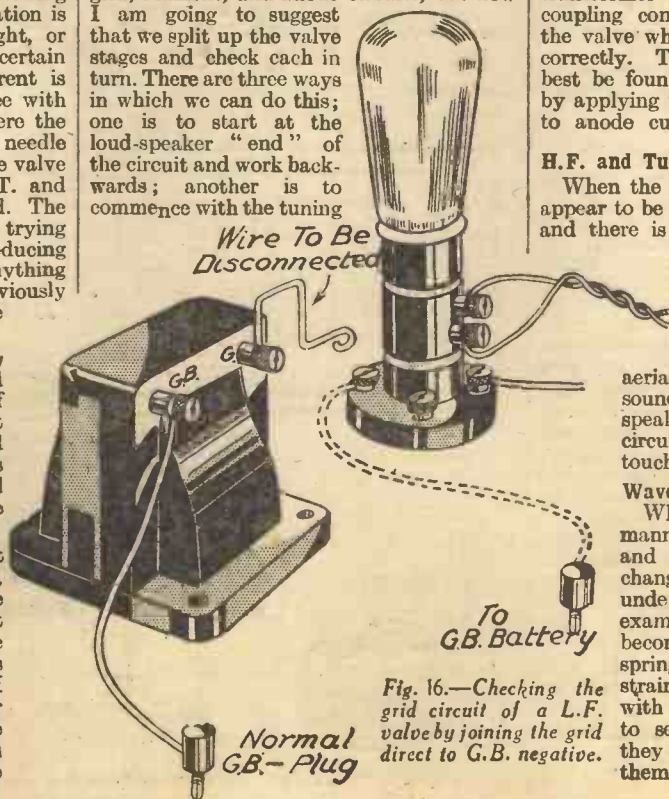

Fig. 16.—Checking the grid circuit of a L.F. valve by joining the grid direct to G.B. negative.
(4) *Anode current fluctuating*: A continual variation in anode current when the set is not tuned to any signal will generally prove to be due to a bad connection which might be either in the grid, filament or anode circuit. First examine carefully all the wiring, see that the valve is firmly in its holder and short-circuit the on-off switch with a short length of wire. Short-circuit each component in the anode circuit as shown in Fig. 14 and apply all the tests mentioned under heading (1). If the fault still persists disconnect the wire going to the grid terminal of the valve holder, if the valve concerned is an S.G. or detector. This should *not* be done in the case of an L.F. valve because the removal of the grid bias voltage might result in damage to the valve. Instead, the grid should be connected directly to the grid bias battery as shown in Fig. 16. If the current becomes steady on applying the latter test it will be obvious that the component(s) in the grid circuit (tuning coil or condenser, transformer, secondary or grid leak) is at fault. In the case of an S.G. or V.-M. valve where a potentiometer is used for volume control, this component should be replaced if a spare is available. Otherwise the connection to the slider should be removed and replaced by a wire going direct to the high tension or grid bias battery. When the current fluctuation occurs only when a signal is tuned-in, there is probably a bad contact in the aerial-earth or tuning system, or in the grid circuit of the valve concerned is an S.G. or detector. To locate the fault, all connections should first be checked and, when possible, other tuning coils substituted. Where the fluctuation is in respect to an L.F. valve it might, or might not, indicate a fault. A certain amount of variation in anode current is inevitable, and it will vary in degree with the delicacy of the meter. But where the current change is so much that the needle "kicks" violently it is likely that the valve is faulty, is receiving incorrect H.T. and G.B. voltages, or is being overloaded. The former points can be checked by trying other voltages and the latter by reducing volume. In any case, if there is anything seriously wrong the fault will previously have made itself conspicuous in the form of distortion.